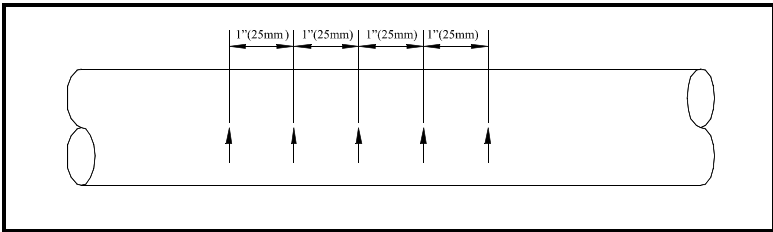

Figure 3-4: Measuring Thickness Along the Pipe Axis
2. Clear rust or loose paint and measure the wall thickness at five points along the pipe axis at 25 mm (1-in.) intervals using an ultrasonic thickness gauge, as shown in Figure 3-4 below. Check each point three times and record the mean values. If the maximum variation between the five points exceeds 0.25 mm (0.010 in.), find another location.